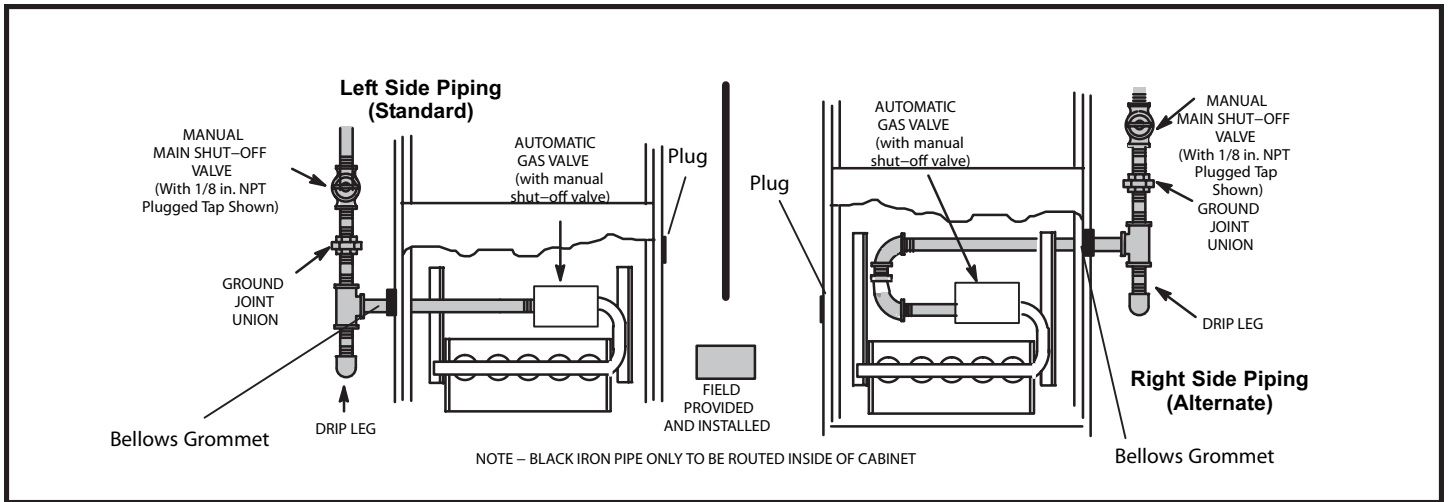

Figure 33
1. Gas piping may be routed into the unit through either the left or right hand side. Supply piping enters into the gas valve from the side of the valve as shown in Figure 33. Move bellows grommet to side of the cabinet which the gas line enters. Ensure opposite gas line entrance is plugged with supplied plug.
3. Gas piping must not run in or through air ducts, clothes chutes, chimneys or gas vents, dumb waiters or elevator shafts. Center gas line through piping hole. Gas line should not touch side of unit. See Figures 33.